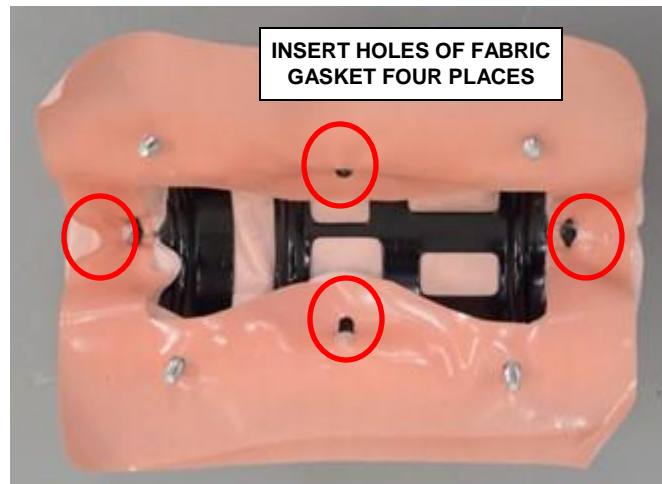

Figure 38 – Fabric Gasket
- g. With the help of a trim tool insert the holes of fabric gasket, four places (Figure 38).